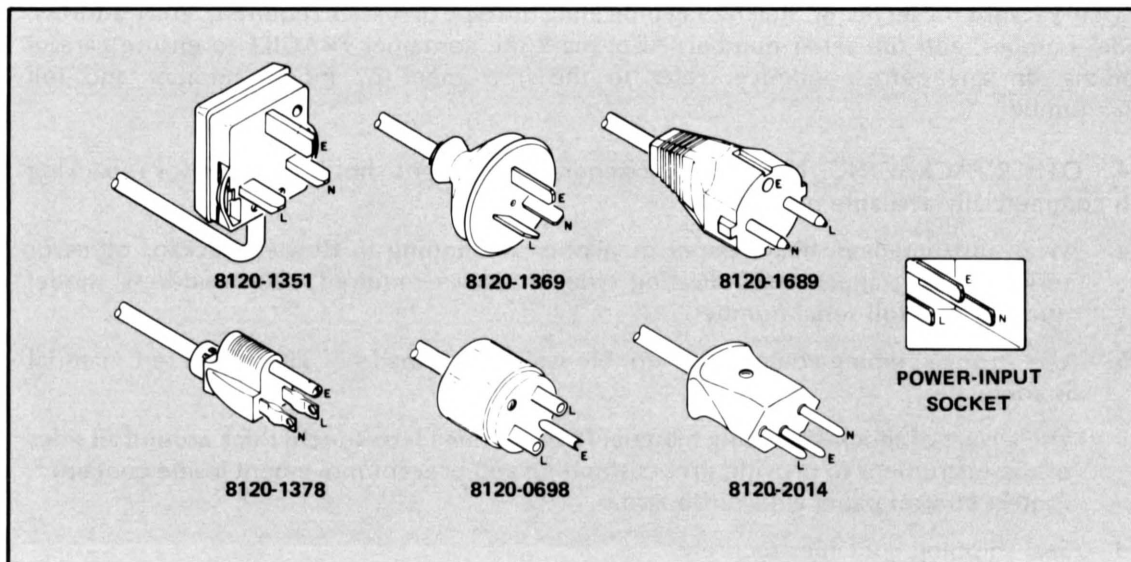

Figure 2-2. Power Cable HP Part Numbers versus Mains Plugs Available
- a. Depending on the customer's country, the line power cable supplied has one of six appropriate line (mains) connectors. Refer to *Figure 2-2, Power Cable HP Part Numbers Versus Mains Plugs Available*, for the part number of the correct cable.
2-13. The 5005A is shipped with a three-wire power cable. When the cable is connected to an appropriate ac power source, this cable connects the instrument chassis to earth ground. The type of power cable plug shipped with each instrument depends on the country of destination. Refer to *Figure 2-2* for the part numbers of the power cable and plug configurations available.